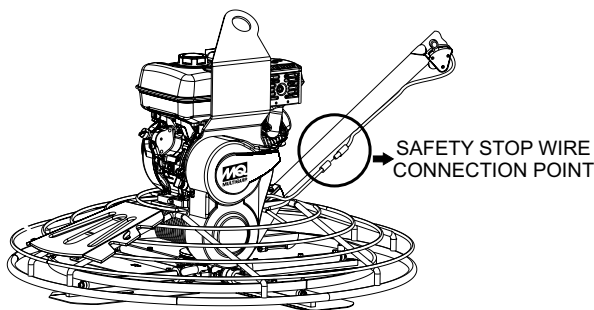

Figure 8. Safety Stop Switch Connection
1. Connect the black tail wire from the engine to the black safety stop wire from the centrifugal stop switch as shown in Figure 8.